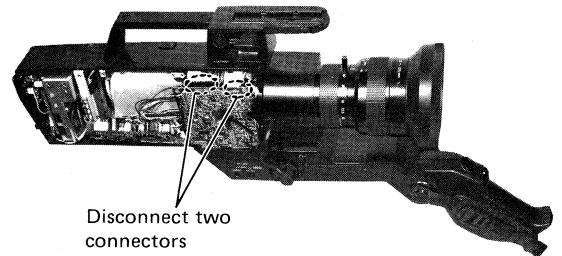

Fig. 3-1-1
- Disconnect the CN1 and CN2 on Microprocessor board. (Fig. 3-1-1)